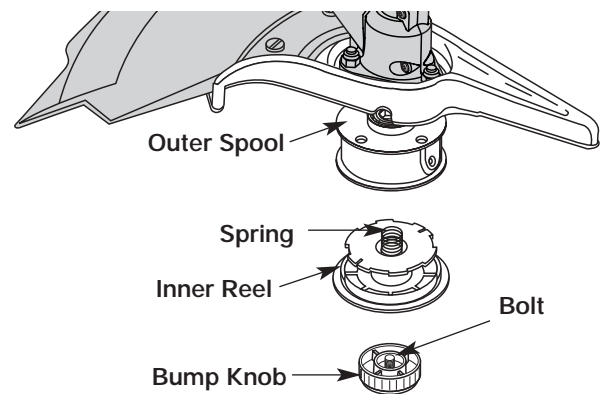

Figure 27
1. Hold the outer spool with one hand and unscrew the bump knob counterclockwise. See Figure 27. Inspect the bolt inside the bump knob to make sure it moves freely. Replace the bump knob if damaged.
2. Remove the inner reel from the outer spool. See Figure 27.
3. Remove spring from the inner reel. See Figure 27.
1. Hold the outer spool with one hand and unscrew the bump knob clockwise. See Figure 27. Inspect the bolt inside the bump knob to make sure it moves freely. Replace the bump knob if damaged.
2. Remove the old inner reel from the outer spool. See Figure 27.
3. Remove the spring from the old inner reel. See Figure 27.